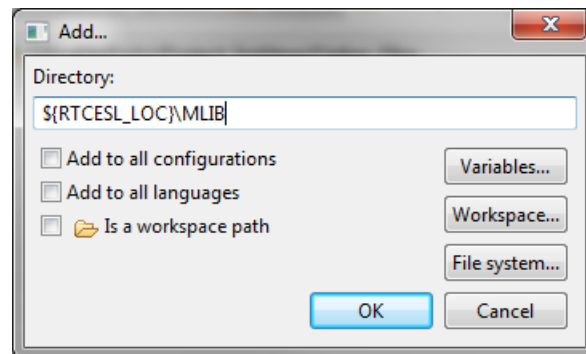

Figure 1-8. Library path inclusion
5. Look for the RTCESL_LOC variable by clicking Variables..., and then finish the path in the box by adding the following (see Figure 1-8): \${RTCESL_LOC}\MLIB.